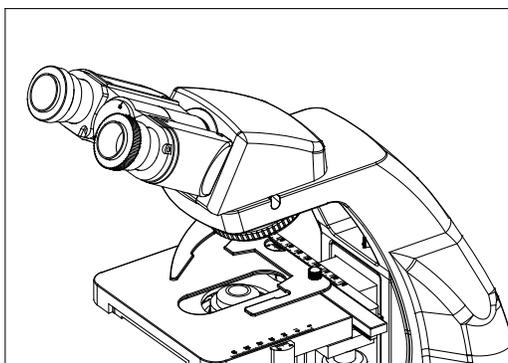

Fig. 2
Position the viewing head ② above the dovetail opening ③ as shown and set it into place with the two eyepiece tubes facing forward as shown (Fig. 2).